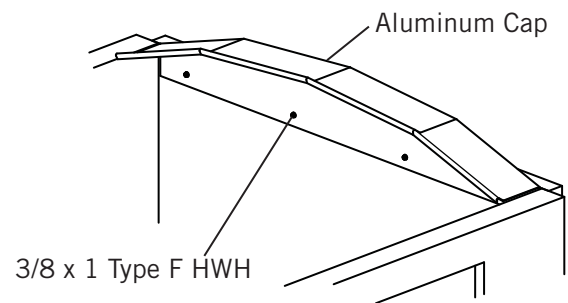

Figure 19
- 1) Figure 19.** Position aluminum rear cap centered on inside of tailgate with the bottom of the trough even with the side walls.